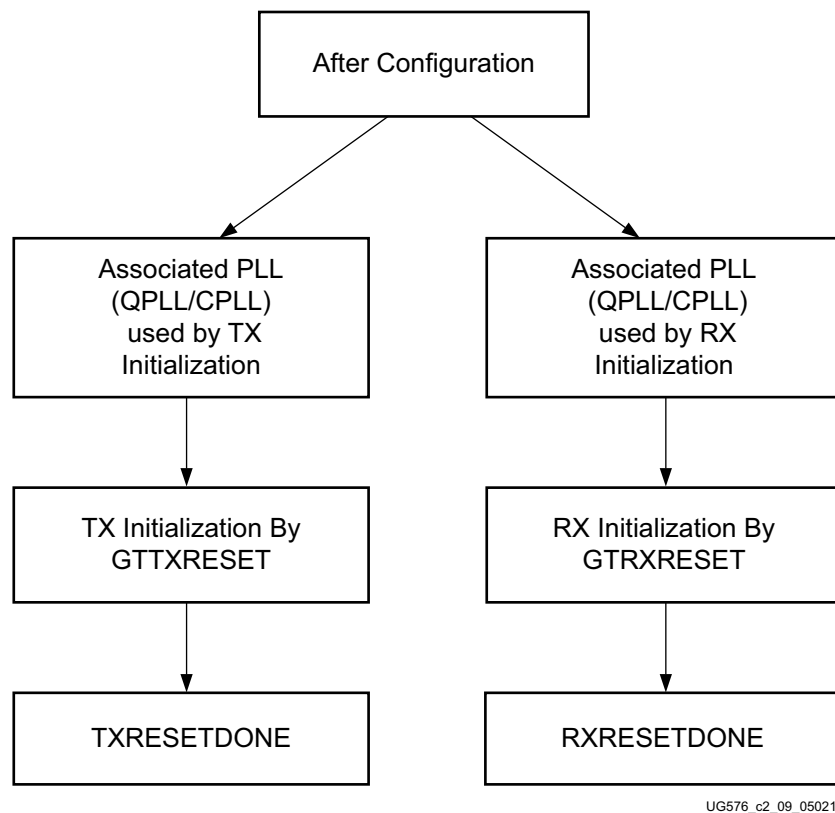

Figure 2-16: GTH Transceiver Initialization Overview
The GTH transceiver must be initialized after device power-up and configuration before it can be used. The GTH transmitter (TX) and receiver (RX) can be initialized independently and in parallel as shown in Figure 2-16. The GTH transceiver TX and RX initialization comprises two steps: